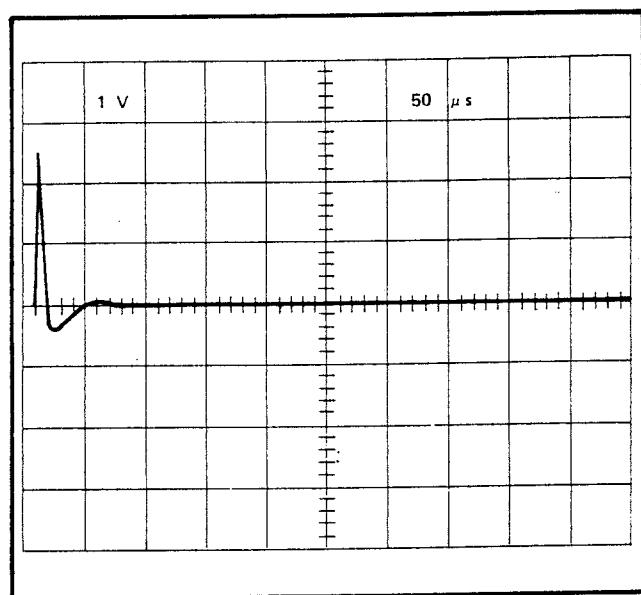

Figure 4-6. CHOPPER WAVEFORM – FINAL ADJUSTMENT
- k. Decrease the scope's time base to 50 μ s per division, and fine tune R34 so that the area under the spike preceding the noisy region is equal to the area under the negative overshoot as shown in Figure 4-6.